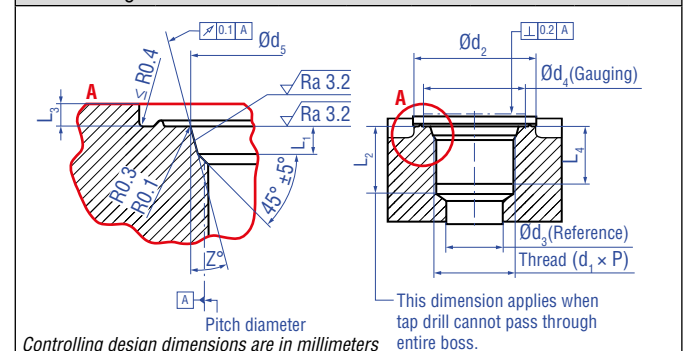

Fig. 16: Notice for metric threaded flange M18×1.5-6g based on DIN ISO 6149-1
3. A sealing by using O-ring 15.3 × 2.2 mm (0.6 × 0.09 in.) (part no. 401133) in the undercut. In this case a screw hole based on ISO 6149-1 (Fig. 16) must be provided. See ISO 6149-1 for further information.